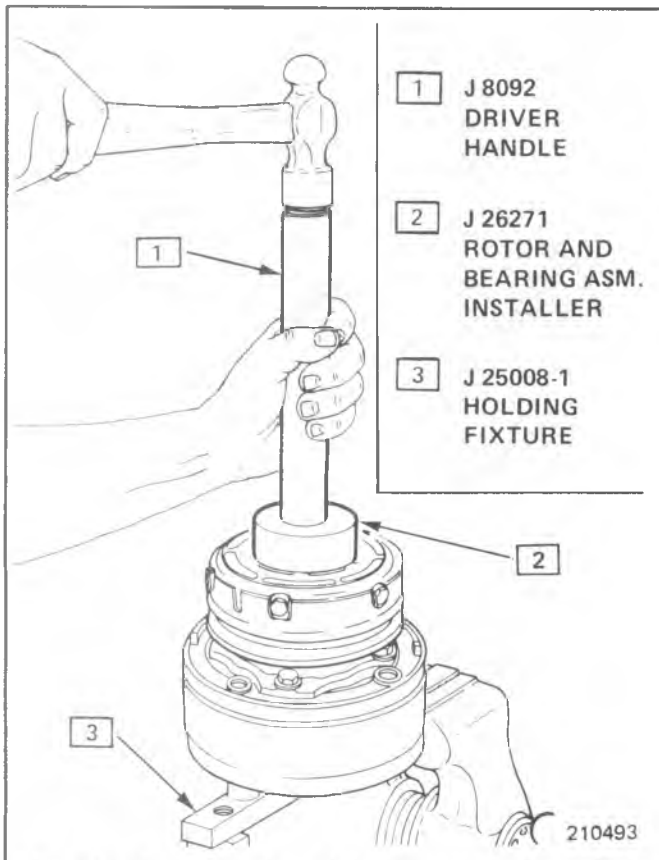

Fig. 1C1-18 Installing Rotor & Bearing Asm. V Groove Type
3. Install Rotor and Bearing Puller Guide J-25031-1 to the front head and install Rotor and Bearing Puller J-25031-2 down into the rotor until the puller arms engage the recessed edge of the rotor hub. Hold the Puller and arms in place and tighten the Puller screw against the Puller Guide to remove the clutch pulley-rotor and bearing assembly (Figs. 1C1-12 and 1C1-19), being careful not to drop the Puller Guide.
4. Place the pulley-rotor and bearing assembly on blocks similar to that shown in Fig. 1C1-14. Drive the bearing out of the rotor hub with Rotor Bearing Remove J-9398.